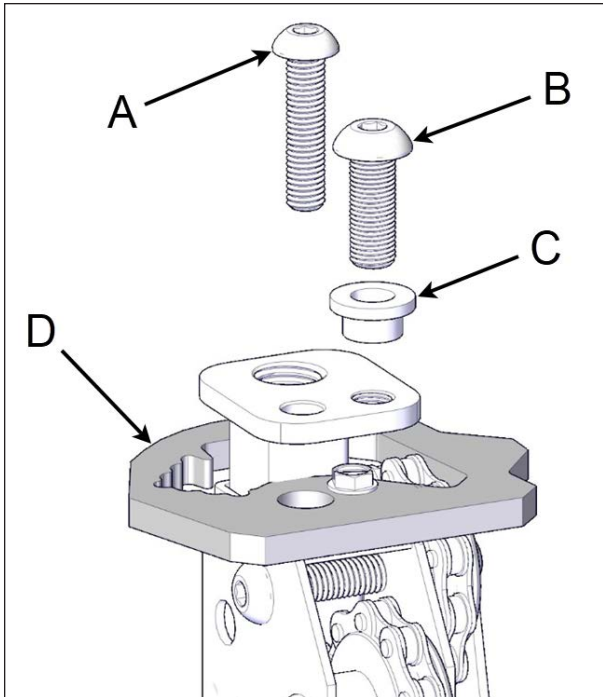

FIGURE 56: JACK LOCK SCREW
- Once all the drive shafts are installed, the jack lock screws located at the top of the non- motor- side jacks can safely be removed. Remove the Allen M8 x 50 mm screws and keep them for future use see Figure 56.
17. Unscrew the 3/8" x 1" Allen bolt with a 7/32" (5.5 mm) socket on the top of all four jack assemblies. Put these parts in safe location see Figure 56.